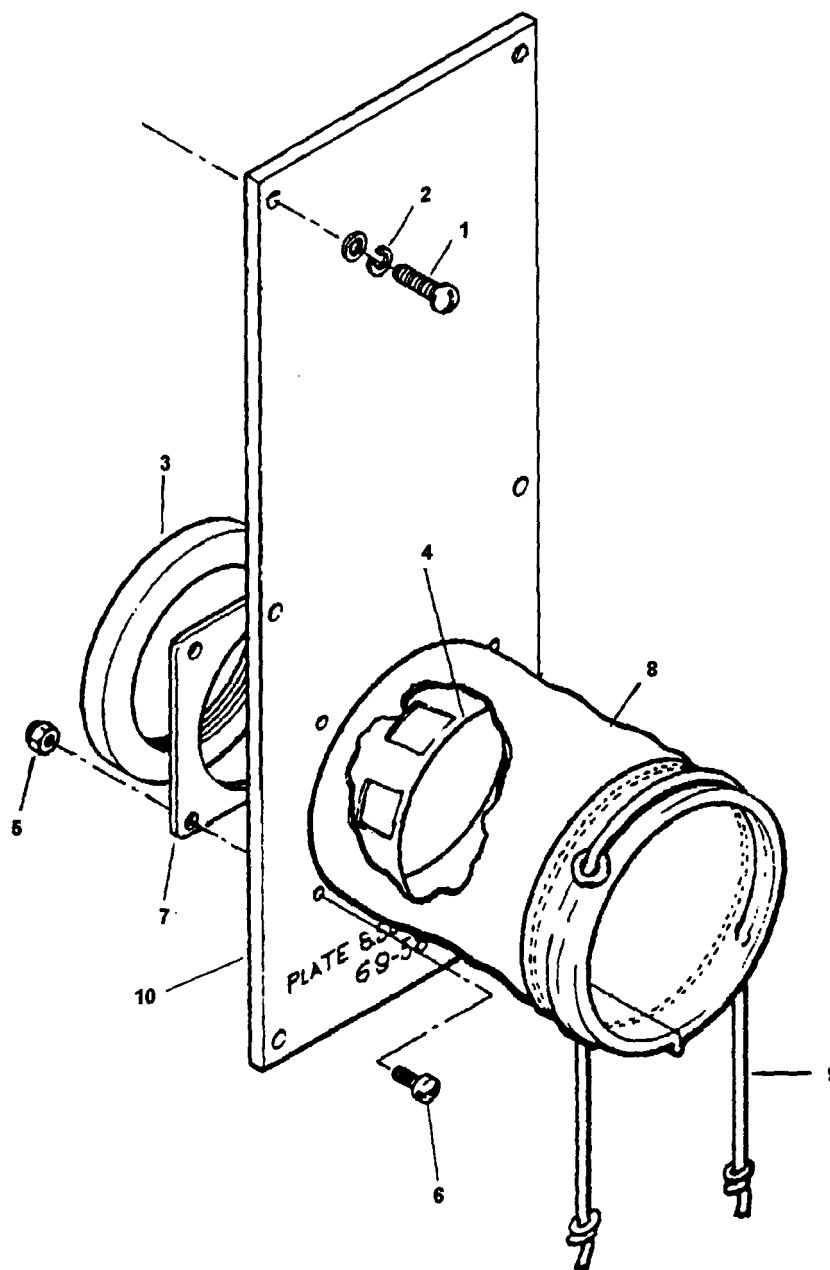

Figure 4-51. Plate and Sleeve Assembly, Exploded View
- (1) Remove screws (1, Figure 4-51) and Lockwashers (2) to remove plate and sleeve assembly.
- (2) Remove ring (3) and bushing (4); then remove nuts (5), screws (6) and retainer (7) to remove sleeve (8) with draw string (9) from plate (10).
- (1) Install plate (10, Figure 4-51) with drawstring (9), sleeve (8), retainer (7), screws (6), nuts (5), bushings (4), and ring (3).
- (2) Install plate and sleeve assembly with lockwashers (2), and screws (1).